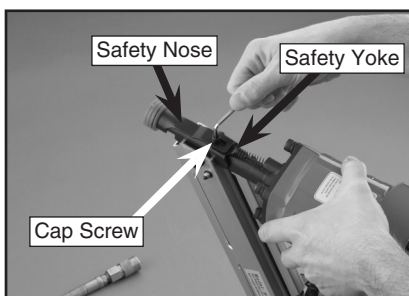

Figure 6. Loosening cap screw for depth adjustment.
2. If the nail is driven too far into the workpiece, loosen the cap screw on the safety nose with a 4mm wrench, as shown in **Figure 6**.
3. Slide the safety nose (**Figure 6**) toward the nailer body to drive nails deeper. Slide the safety nose forward if the nail goes too deep.